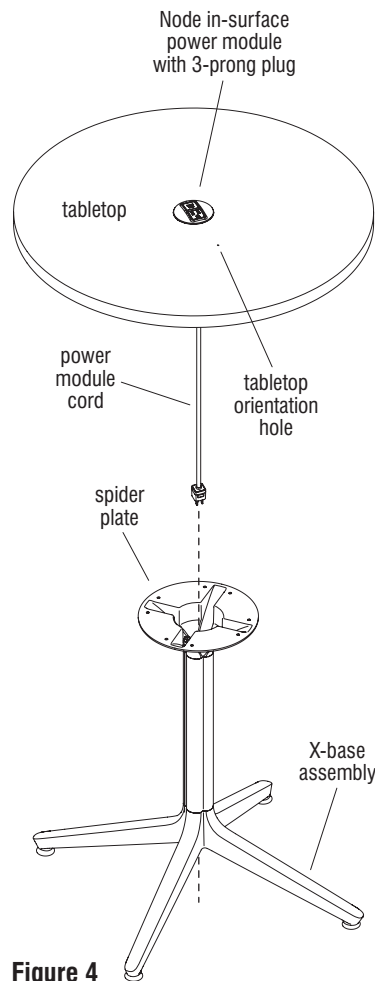

Figure 4
8. Carefully turn the X-base assembly to the upright position on the floor (Figure 4).
9. With the assistance of a second person, have one person hold the tabletop above the X-base assembly, while the second person inserts the 3-prong plug end of the Node in-surface power module down the hole on top of the spider plate on the X-base assembly. Continue to route the cord down the leg column, while also lowering the tabletop down onto the spider plate, until the 3-prong plug end exits the bottom of the leg column and the tabletop fully rests on top of the spider plate (Figure 4).